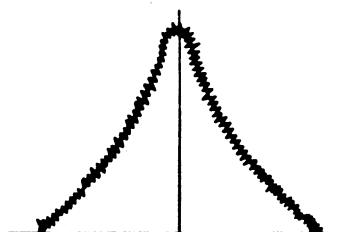

Fig. 5
**Note 1.:** Adjust T4, T5 and T6 to get maximum gain and symmetry in IF response as shown in Fig. 5.